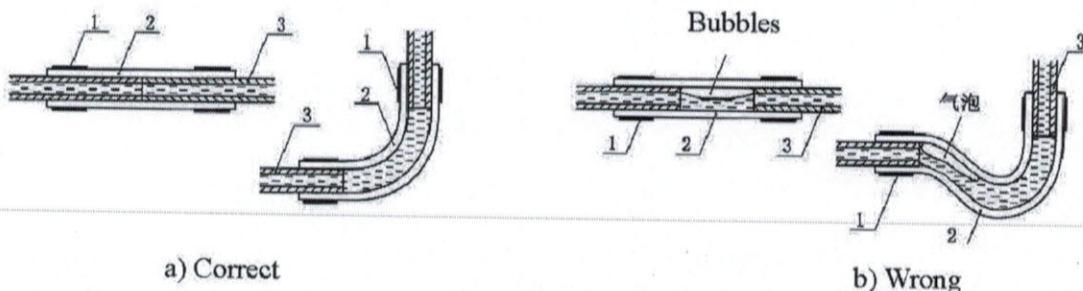

Fig. 15
4.4.5.4 The fuel tube fittings supplied with the heater shall be used for connections between fuel tube and fuel pump, fuel tube and heater, fuel tube and sucking tube of fuel tank and fuel tube and reducing T. The fuel tube shall ties with fuel tube clamps. Bubbles shall be eliminated from the connecting places (Fig. 15).